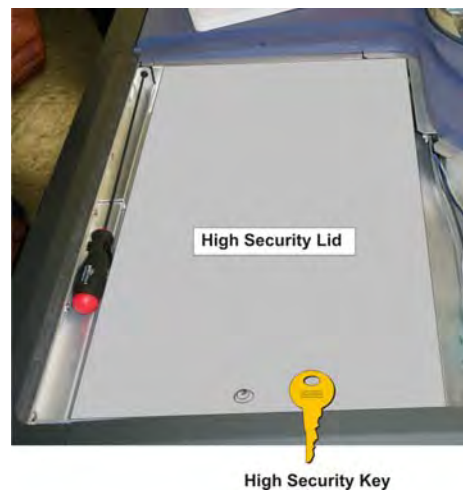

Figure 5-2 High Security Lid
2. Using the high security key, unlock the high security lid (**Figure 5-2**).